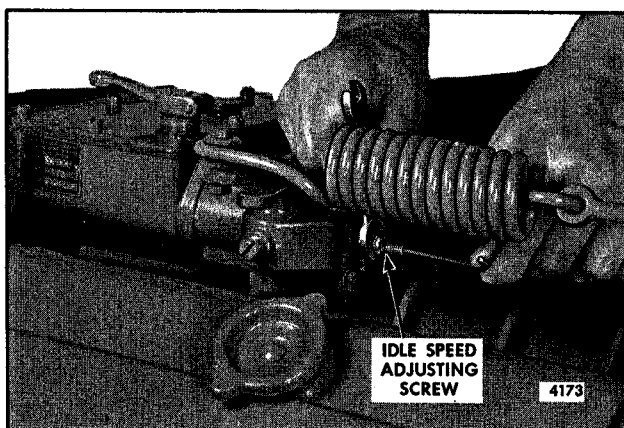

Fig. 5 - Adjusting Idle Speed
2. With the engine operating, loosen the lock nut and turn the idle speed adjusting screw (Fig. 5) in or out until the engine idles at 600 rpm.